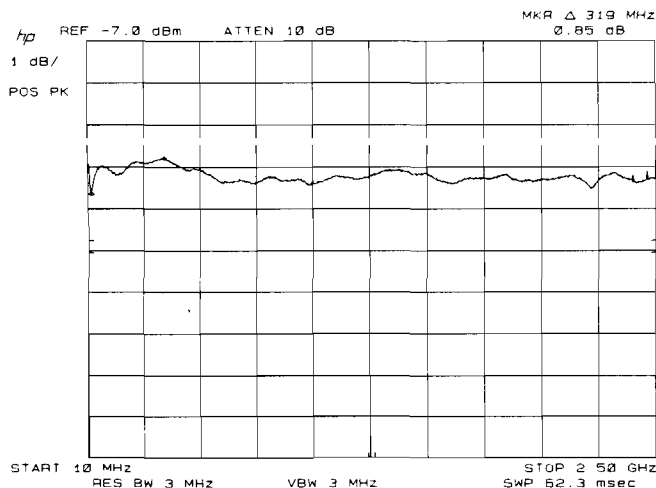

Figure 3-93.
38. On the synthesized sweeper, press **SWEEP [SINGLE]** and wait for a sweep to complete (150 seconds) and the **SWEEP LED** to turn off. As the synthesized sweeper tunes from 10 MHz to 2.5 GHz, the input signal should be displayed as a **TRACE A** response, and the spectrum analyzer frequency response should be displayed as **TRACE B**, as shown in Figure 3-93.